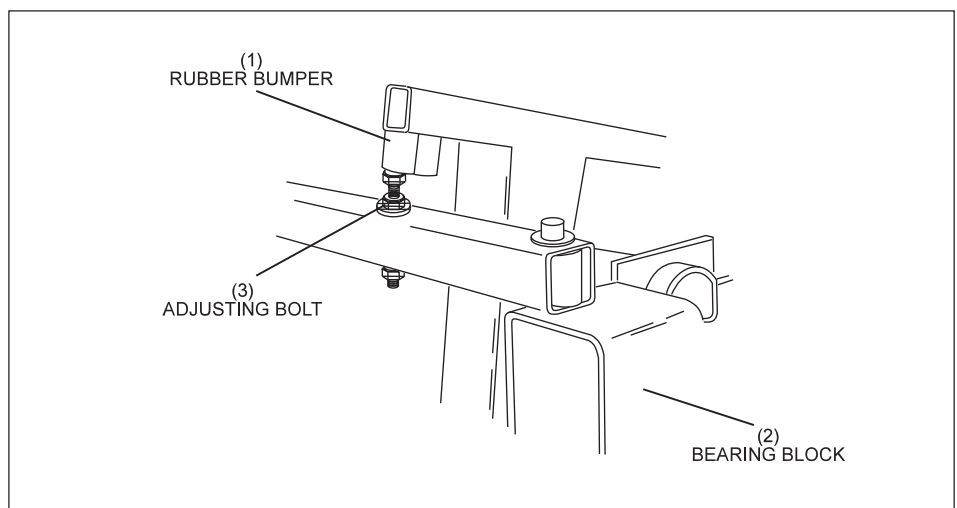

Figure 5-6. Ball Cushion Adjusting Bolt.
- a. Using the adjusting bolt shown in *Figure 5-6*, adjust the ball cushion so the front of the cushion is 5 mm in front of the ball protector ring. This will position the ball so it will enter through the ball door without touching the protector ring. Refer to *Figure 5-7*.
- (1) RUBBER BUMPER
- (2) BEARING BLOCK
- (3) ADJUSTING BOLT